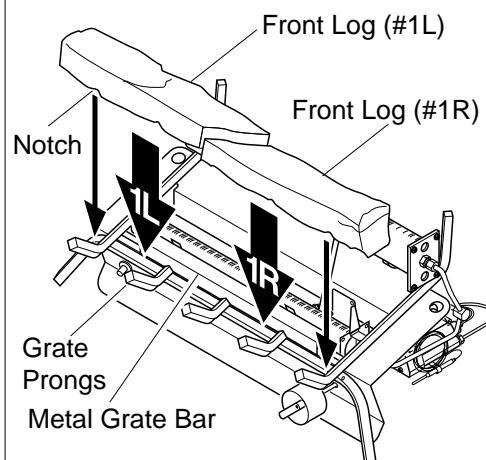

Figure 21 - Installing Front Logs (#1L and #1R)
1. Place front logs (#1L and #1R) on top of the grate. Make sure the notches in the bottom of the logs fit over the grate prongs (see Figure 21). Push back of logs flush with metal grate bar. *Note:* 18" model has only one front log.